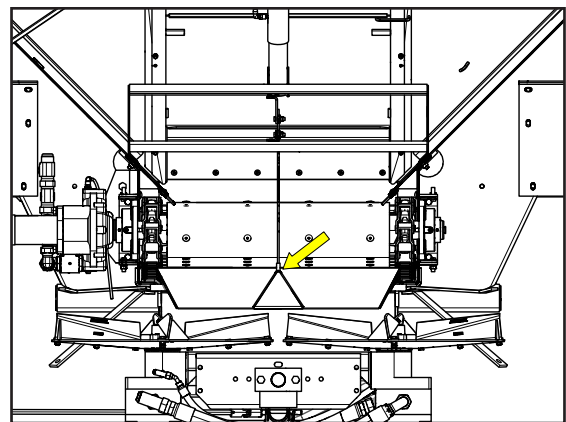

Figure 7
10. Figure 7 - If equipped, Ensure the Hillside Divider is mounted squarely and centered at both the front and the rear. Hillside Divider panel should be perpendicular to ground. Ensure the rear of the panel is centered over the center section of the Material Divider.